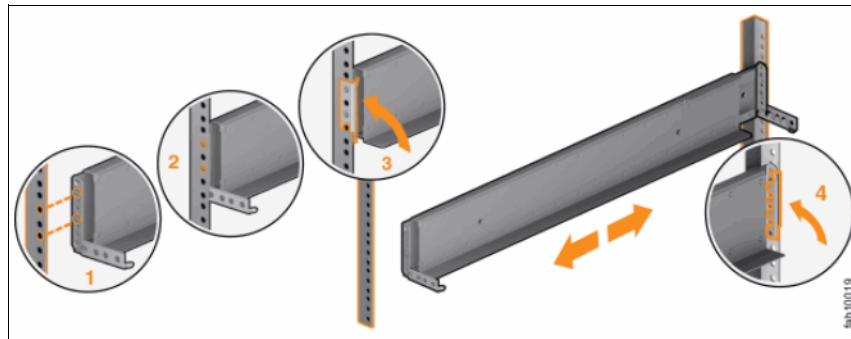

Figure 6-33 Closing the rail hinge brackets
8. Close the rear hinge bracket **4** to secure the rail to the rack cabinet flange. See Figure 6-33.
10. Close the front hinge bracket **3** to secure the rail to the rack cabinet flange. See Figure 6-33 on page 192.